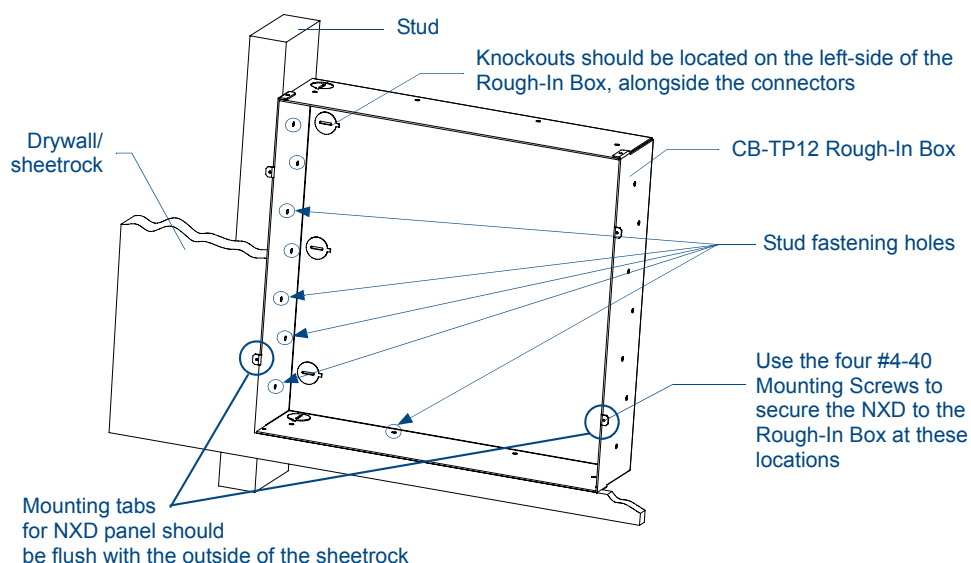

FIG. 1 Screw locations for Rough-In Box attachment in a pre-wall installation
1. Fasten the CB-TP12 to a stud through the stud fastening holes, located on the inside of the Rough-In Box (FIG. 1), by using either nails or screws.